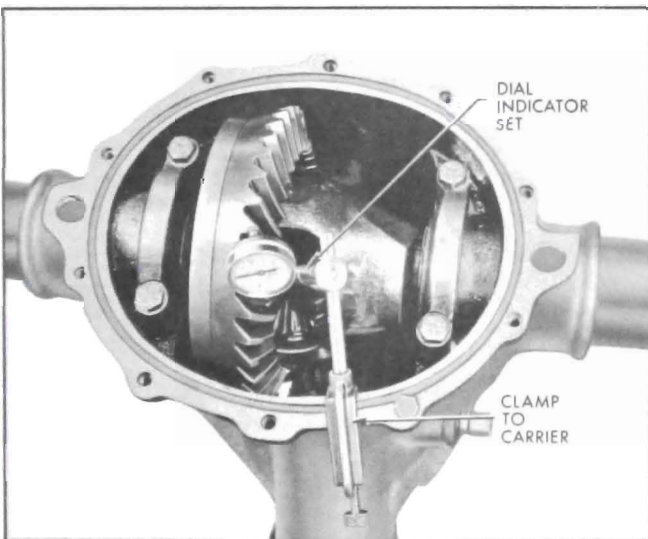

Figure 6-30—Checking Ring Gear to Pinion Backlash
2. Rotate differential case several times to seat bearings, then mount dial indicator as shown in Figure 6-30. Use a small button on indicator stem so that contact can be made near heel end of tooth. Set dial indicator so that stem is as nearly as possible in line with gear rotation and perpendicular to tooth angle for accurate backlash reading.